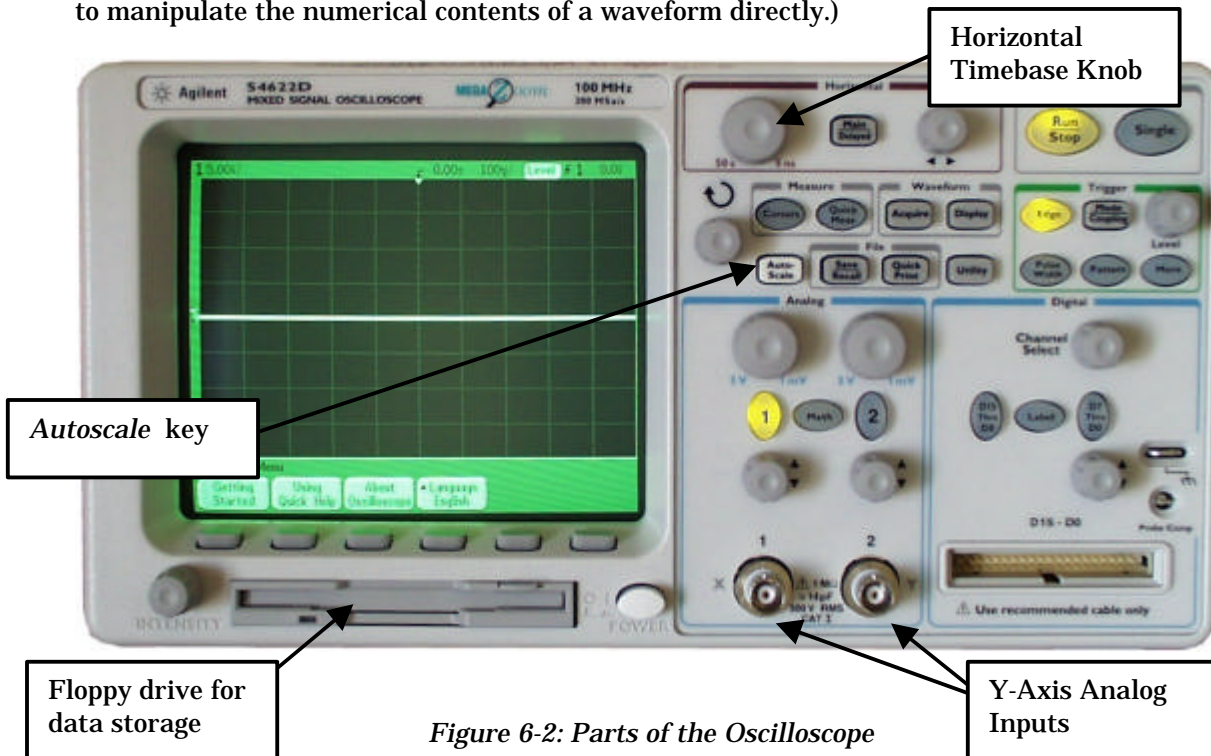

Figure 6-2: Parts of the Oscilloscope
2. Connect the alligator-to-BNC cable to the *Analog Channel 1 Y-axis* input connector on the oscilloscope (located at the lower middle in Figure 6-2).